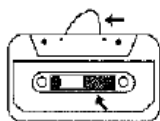

Fig. 1
- Check that there are no loose layers of tape visible through the cassette center window (see Fig 1). Take up any loose layers, using a pencil or hexagonal barreled ballpoint pen, before inserting the cassette into the machine (see Fig.2).